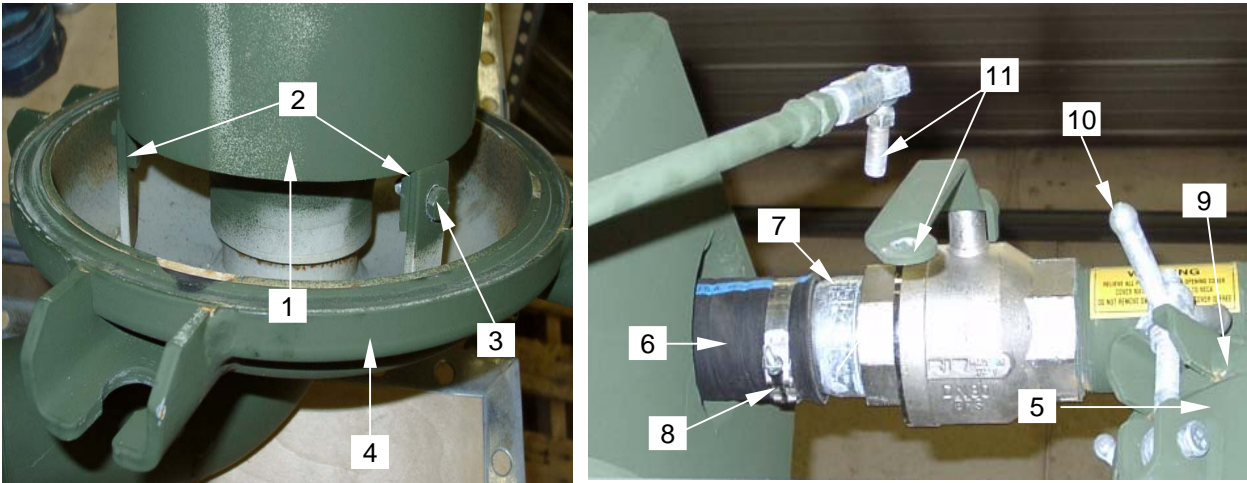

Figure 9. Installing Primary Shutoff Mechanism
- h. Position new basket (**figure 9, item 1**) over float ball and align with brackets (**figure 9, item 2**). Install new hex bolts, hex nuts and flat washers (**figure 9, item 3**) to secure basket to primary shutoff portal lid and isolation valve assembly (**figure 9, item 4**).
- i. Place the primary shutoff portal lid and isolation valve assembly (**figure 9, item 4**) onto the portal lid (**figure 9, item 5**).
- j. Install upper air hose (**figure 9, item 6**) onto isolation valve hose nipple (**figure 9, item 7**) and secure with hose clamp (**figure 9, item 8**).
- k. Secure primary shutoff portal lid (**figure 9, item 9**) with wing nut assemblies (**figure 9, item 10**).
- l. Re-connect isolation valve handle linkage (**figure 9, item 11**).